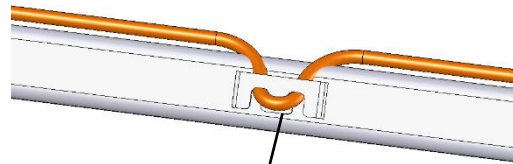

Figure 8
8. With the goal now fully assembled, place the net flat on the ground and locate the corners of the net. Locate the centerline of the bound edge that will be attached to the crossbar. The centerline of the binding will be attached to the centerline clip of the crossbar. Lay the goal down on its face and attach the net by first pushing the outer binding through the clip, then securing in the groove (Fig. 8). Start in the middle of the crossbar and move outward, attaching every other clip, and then go back through and attach the remaining clips. Once clipped, apply weight to the clipped net to stretch material. Next, work down both uprights, ensuring that the net is on the outside of the End Frame. Follow the same procedure used for the crossbar. Finish by attaching the net to the Ground Bar in the same manner.